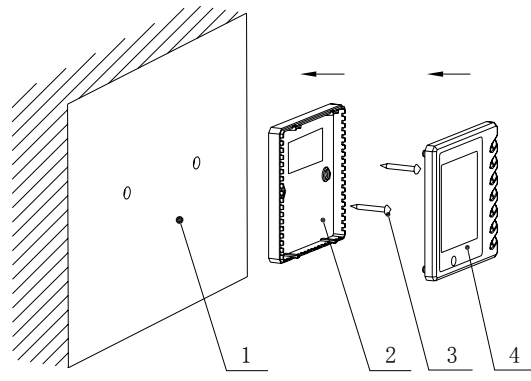

Fig.24 Schematic
- Both Cable of direct installation and the concealed one, please drill two horizontal hole on the wall and insert two wooden plug. Then fix the soleplate on the wall and insert the signal wire pin into the plug as showed in Figure 24, finally fix the controller to the wall..